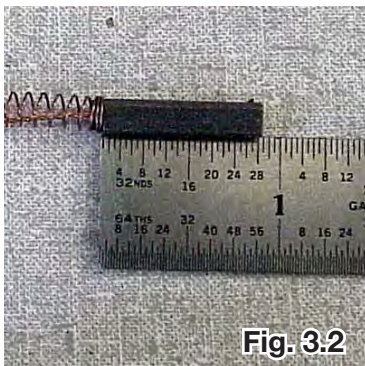

Fig. 3.2
- Check brushes - replace brushes if length less than 3/8" (1 cm) (See Fig. 3.2).